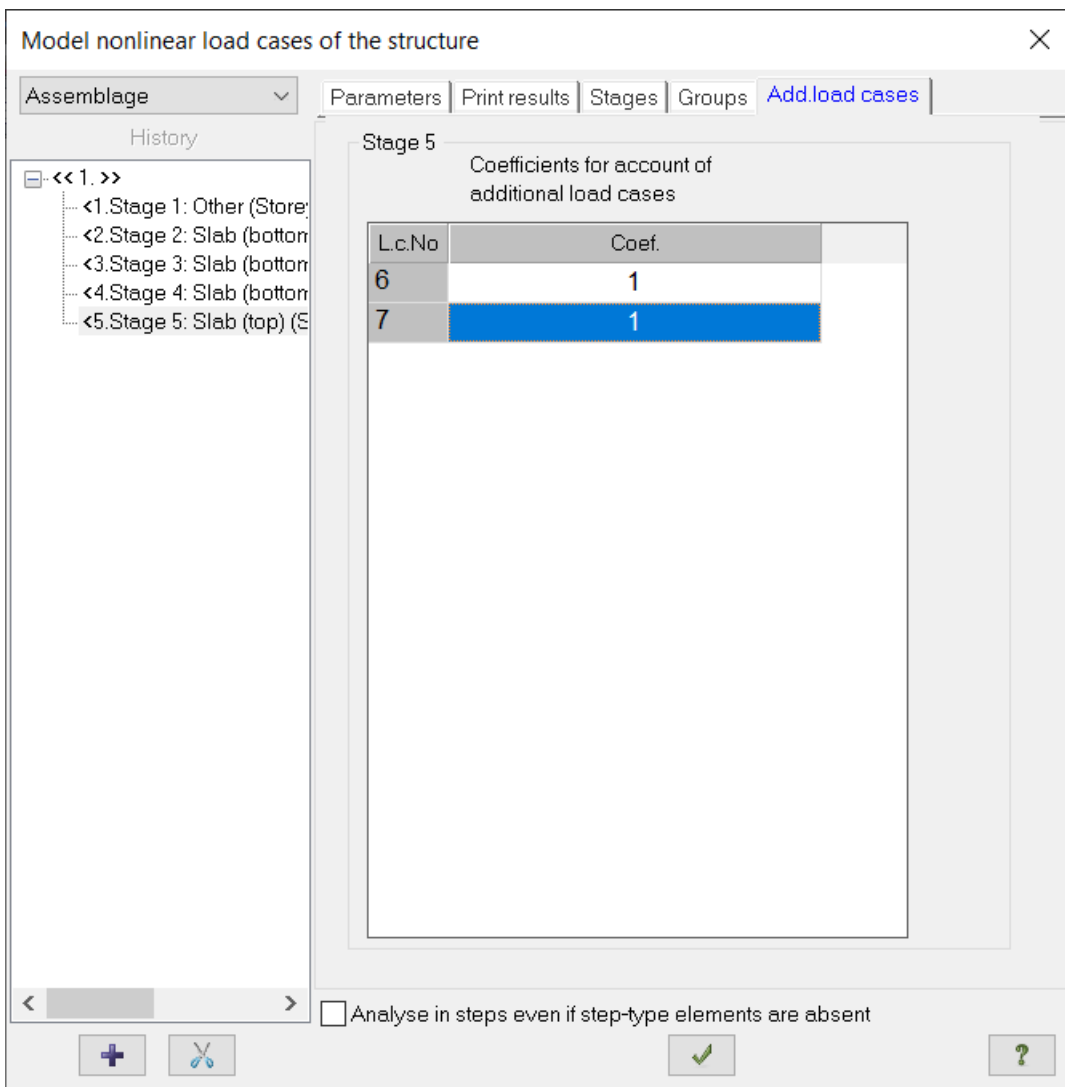

Figure 23.37. Model nonlinear load cases of structure dialog box
- ⇒ In the **Model nonlinear load cases of structure** dialog box (see Fig.23.37), select the **Additional load cases** tab.